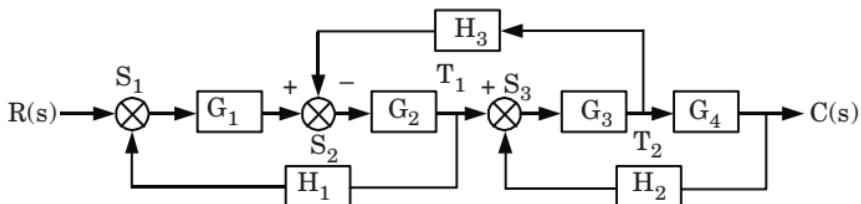

Fig. 5.
2. Determine the transfer function $C(s)/R(s)$ for the block diagram shown in Fig. 5.